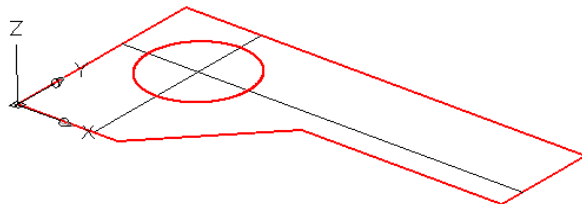

Figure Step 7
Step 7 Using the CIRCLE command, draw a 2 diameter circle with its center located at the intersection of the two construction lines as shown in Figure Step 7.